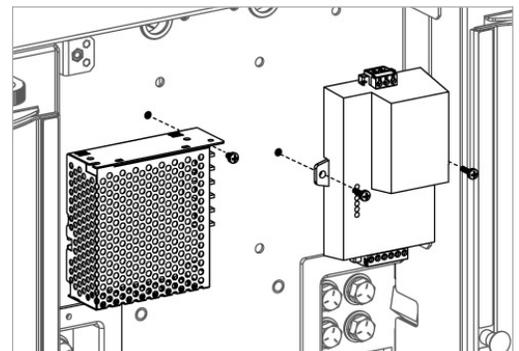

Fig. 2, ProtoNode/power supply mounting
4. Using the supplied mounting screws, secure the ProtoNode module and the power supply module to the mounting provisions located on the BDFB midplane (Fig. 2).